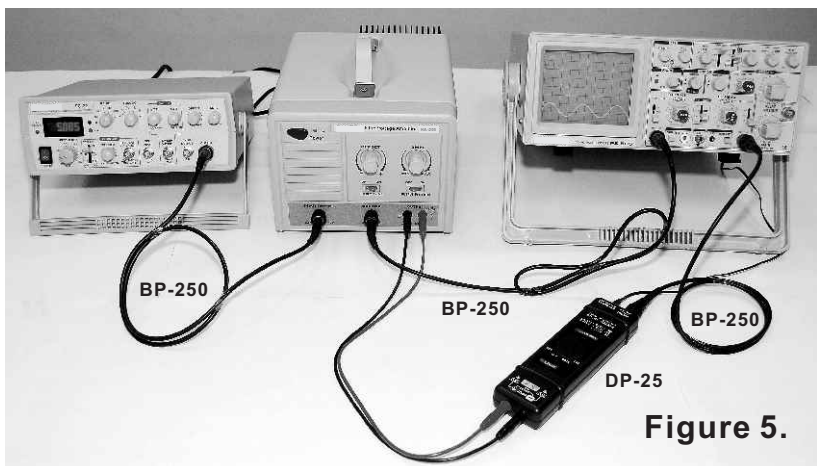

Figure 5.
5.3 Use Function Generator as input, to observe the HA-205 Monitor and Output, and the real output situation from oscilloscope. (Figure 5.)